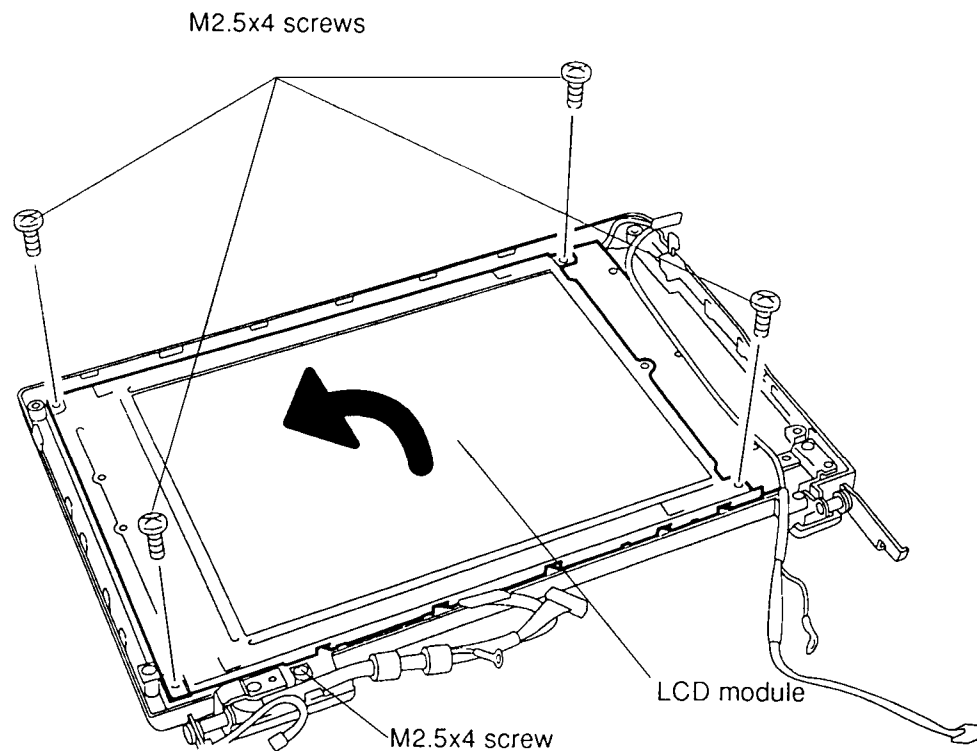

Figure 4-44 Removing the T4500/T4600 LCD Module Screws
To remove the T4500/T4600 liquid crystal display module, follow the steps below and refer to Figures 4-44 and 4-45:
4. Remove the **four M2.5x4 screws** from each corner of the **LCD module** (Figure 4-44).
5. Rotate the **LCD module** out of the cover from right to left (Figure 4-44).
To install the T4500/T4600 liquid crystal display module, follow the steps below and refer to Figures 4-44 through 4-46.
3. Secure the panel with **four M2.5x4 screws** (Figure 4-44).